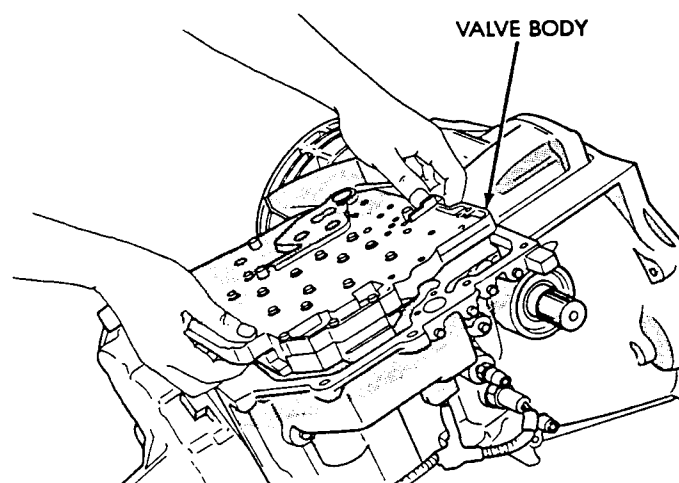

Fig. 5 Remove Valve Body From Transaxle
(8) Carefully remove valve body assembly from transaxle (Fig. 5).